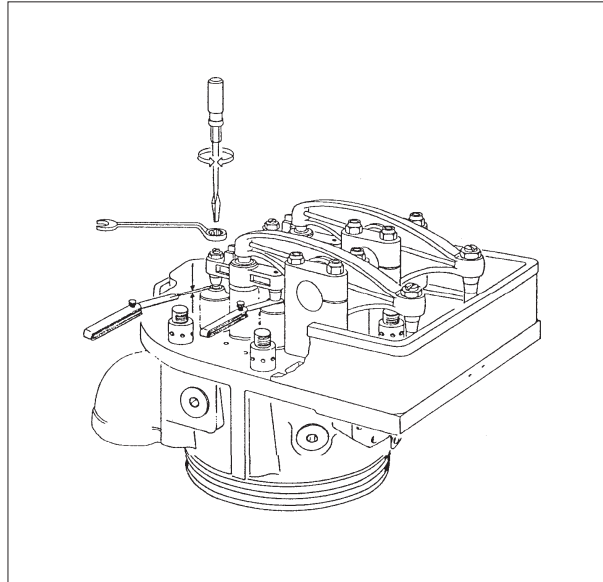

Fig. 2.
6) Place another feeler gauge, at the same size 0,40 mm above the other valve spindle, see fig. 2.
7) Adjust the clearance between valve bridge and valve spindle by means of the adjustment screw on the valve bridge, and tighten the lock nut, see fig. 2.